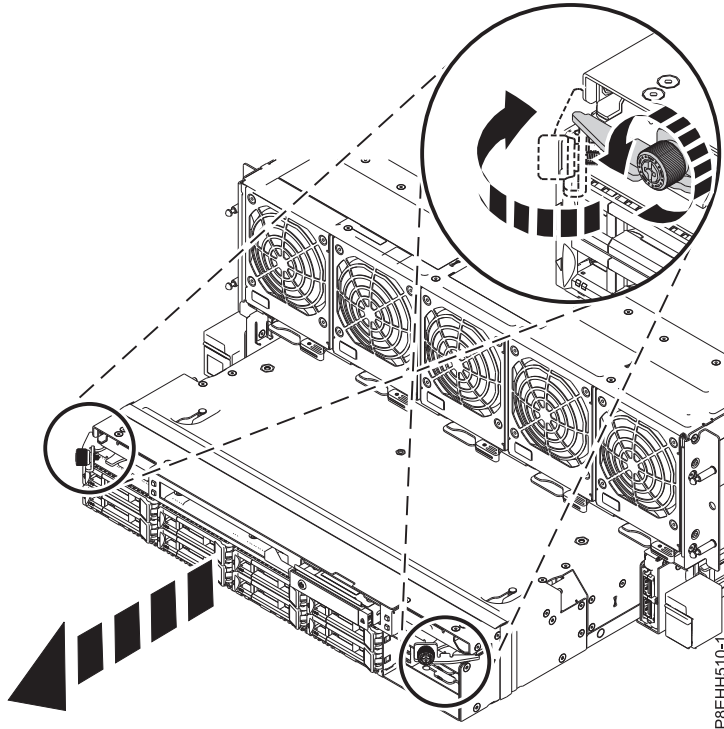

Figure 5. Removing the RAID assembly from the system
- b. Turn the thumbscrews in the direction shown. Pull out the latches and remove the RAID assembly from the system, as shown in Figure 5 on page 6.